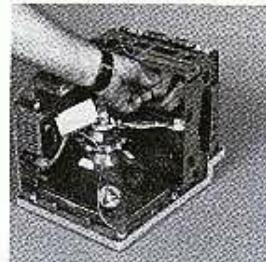

Figure 3-4
- a. Disconnect the cables from the main logic board. See Figure 3-4. (The speaker cable is connected to the rear of the board.)